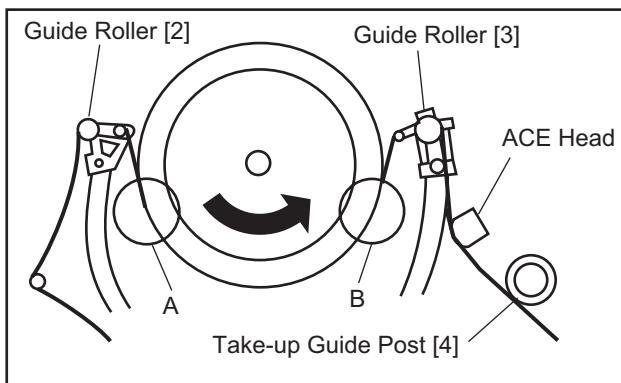

Fig.3
(1) Playback a blank cassette tape and check to see that the tape runs without creasing at Guide Rollers [2] and [3], and at points A and B on the lead surface. (Refer to Fig. 3 and 4.)
(2) If creasing is apparent, align the height of the guide rollers by turning the top of Guide Rollers [2] and [3] with a Guide Roller Adj. Screwdriver. (Refer to Fig. 3 and 5.)
(3) Check to see that the tape runs without creasing at Take-up Guide Post [4] or without snaking between Guide Roller [3] and ACE Head. (Fig. 3 and 5)